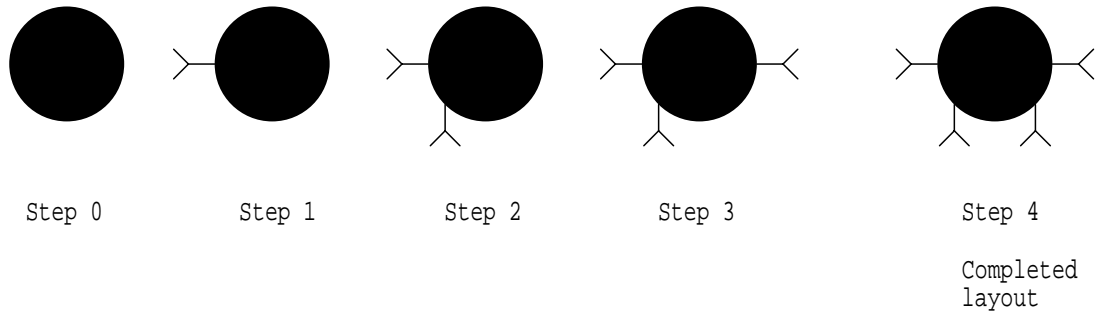

Figure 2: Step-by-step layout procedure for the Siemens BJT
- **STEP 0:** Draw the circle (Step 0 of Figure 2).
- **STEP 1:** Add the first terminal connector (Step 1 of Figure 2).
- **STEP 2:** Add the second terminal connector (Step 2 of Figure 2).
- **STEP 3:** Add the third terminal connector (Step 3 of Figure 2).
- **STEP 4:** Add the fourth terminal connector (Step 4 of Figure 2).